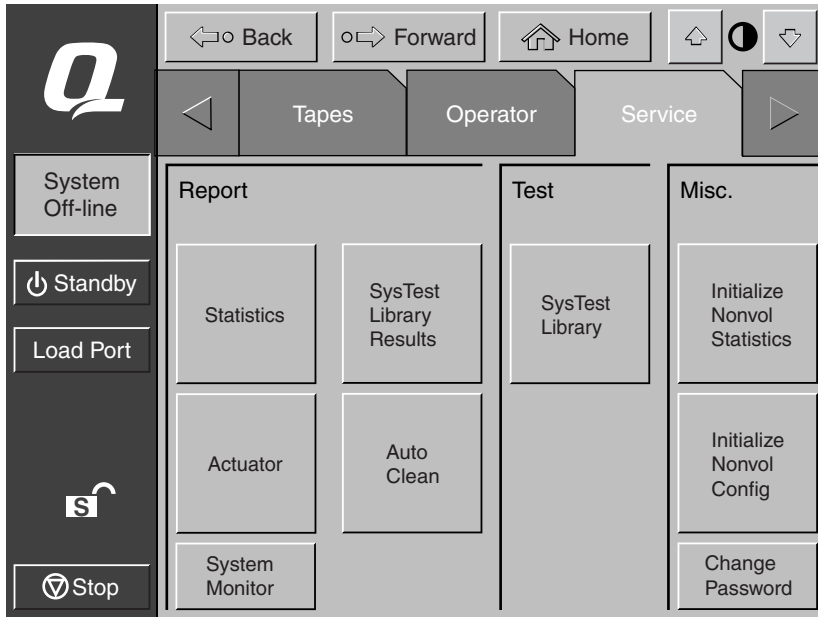

Figure 5-2. Service screen
2. Enter the correct service password to gain access to the Service screen (see Figure 5-2). The default service password is 5678.